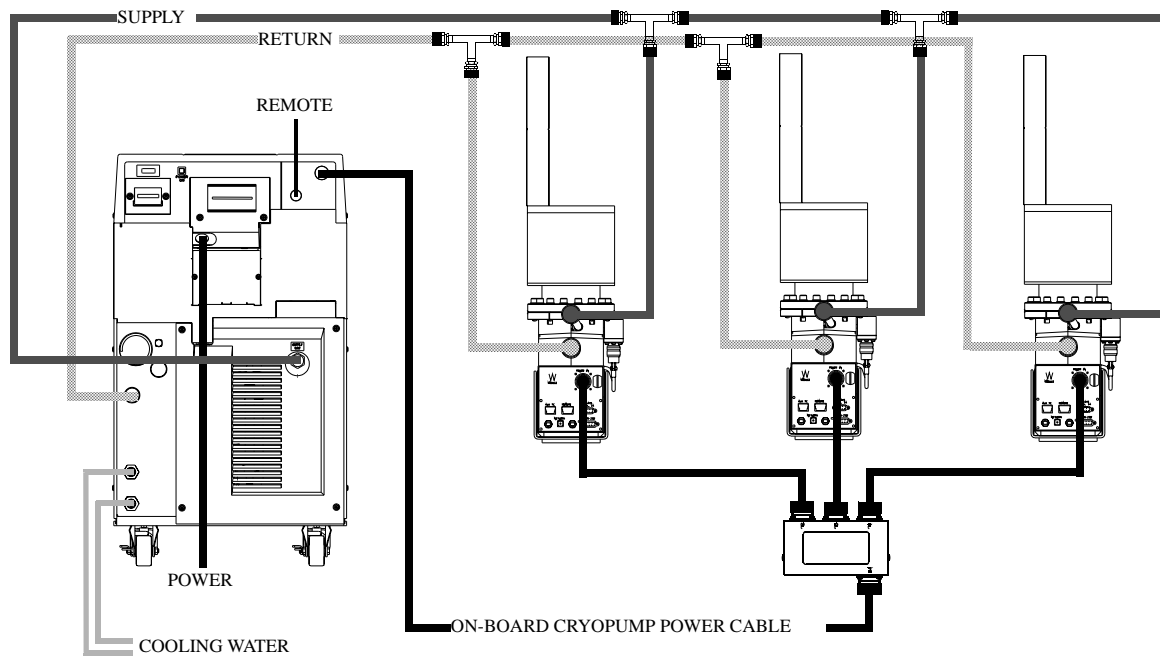

Figure 4-6: Connecting Multiple On-Board Pumps to the 9700A Compressor
1. Connect the On-Board power cable between the CRYOPUMP POWER CONNECTOR on the rear panel of the 9700A Compressor and the On-Board Splitter Box power connector as shown in Figure 4-6.